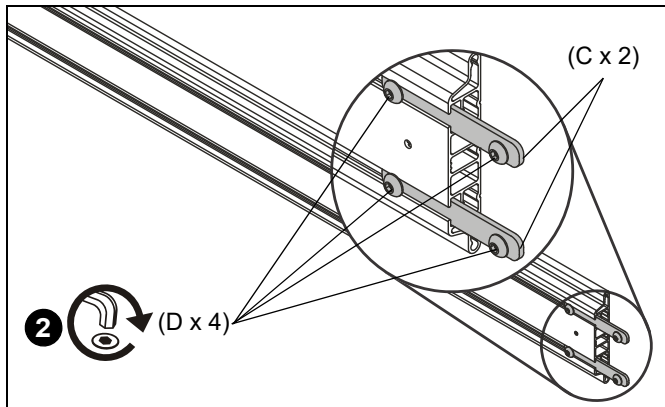

Figure 4
2. Insert four 5/16-18 x 3/8" button head cap screws (D) into the two slot nuts (C) and partially tighten. (See Figure 4)
3. Slide two slot nuts (C) into end of extrusion. (See Figure 4)